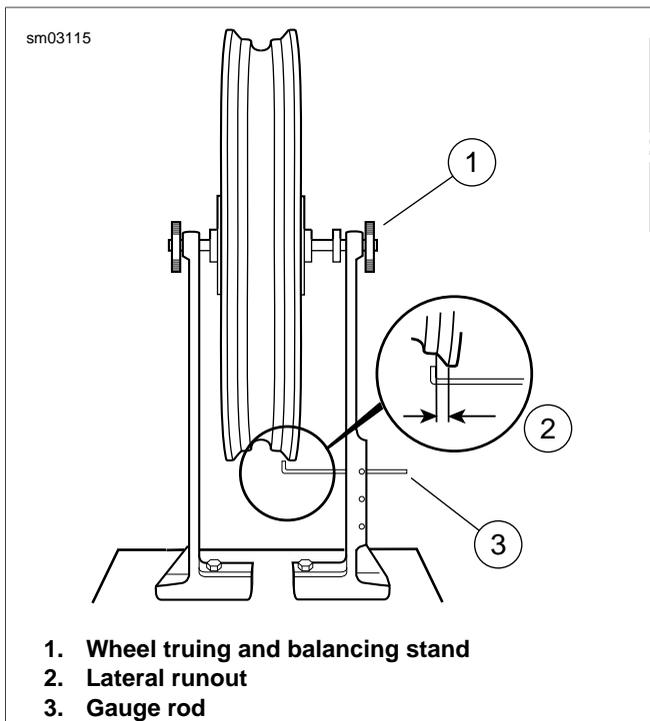

Figure 2-13. Checking Cast Wheel Lateral Runout
2. See Figure 2-13. To check rim lateral runout, place a gauge rod or dial indicator near the rim bead. If lateral runout exceeds 0.040 in. (1.02 mm), replace the wheel if cast. Retrue the wheel if laced.